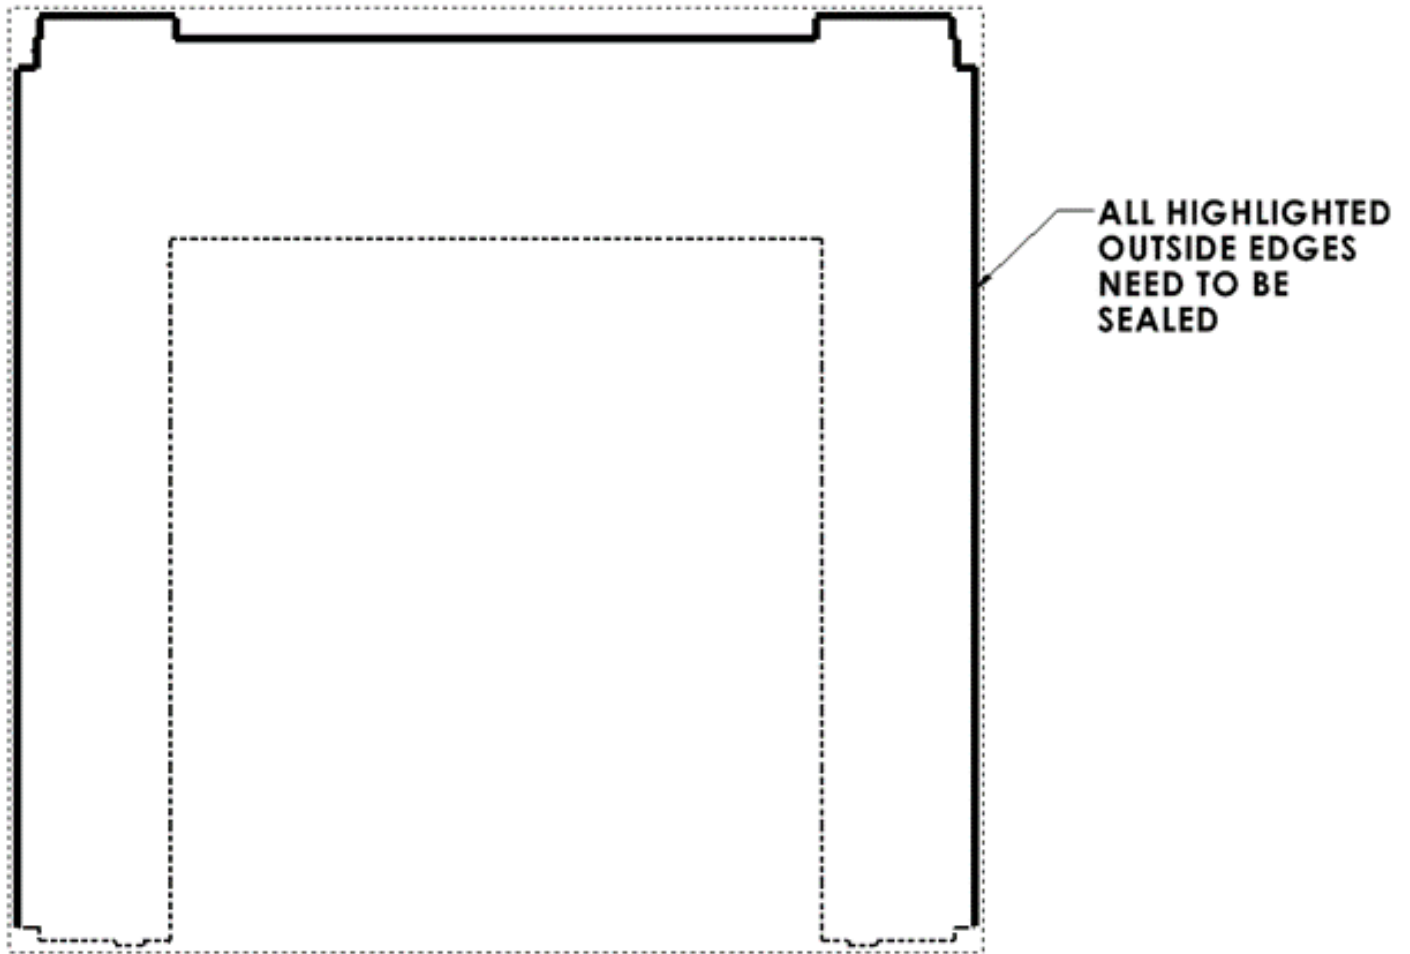

FIGURE 14
- Repeat the process for the Short Bracket w/Seal (B) on the right side.
- 11. SEAL PERIMETER:** Apply sealant to all outer edges (Figure 14). Vulkem® 116 is our recommended sealant for best results.